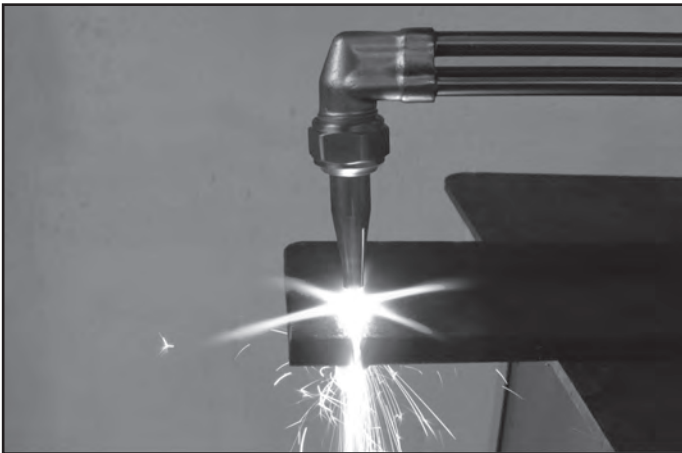

Figure 19: Cutting
20. When the cut starts, move the torch in the direction you wish to cut (see Figure 19).